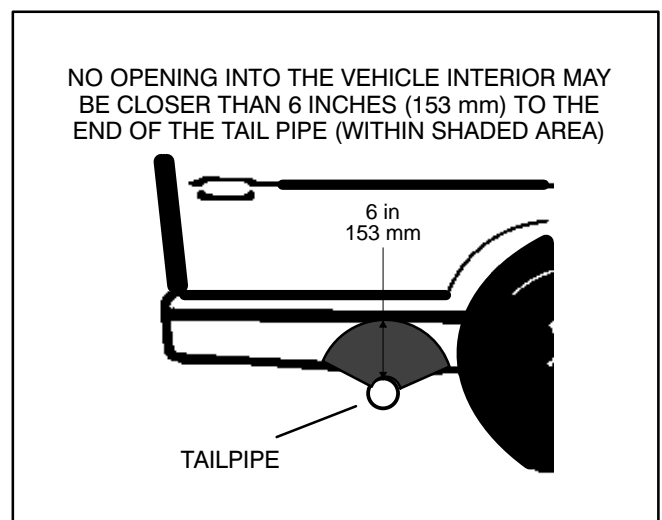
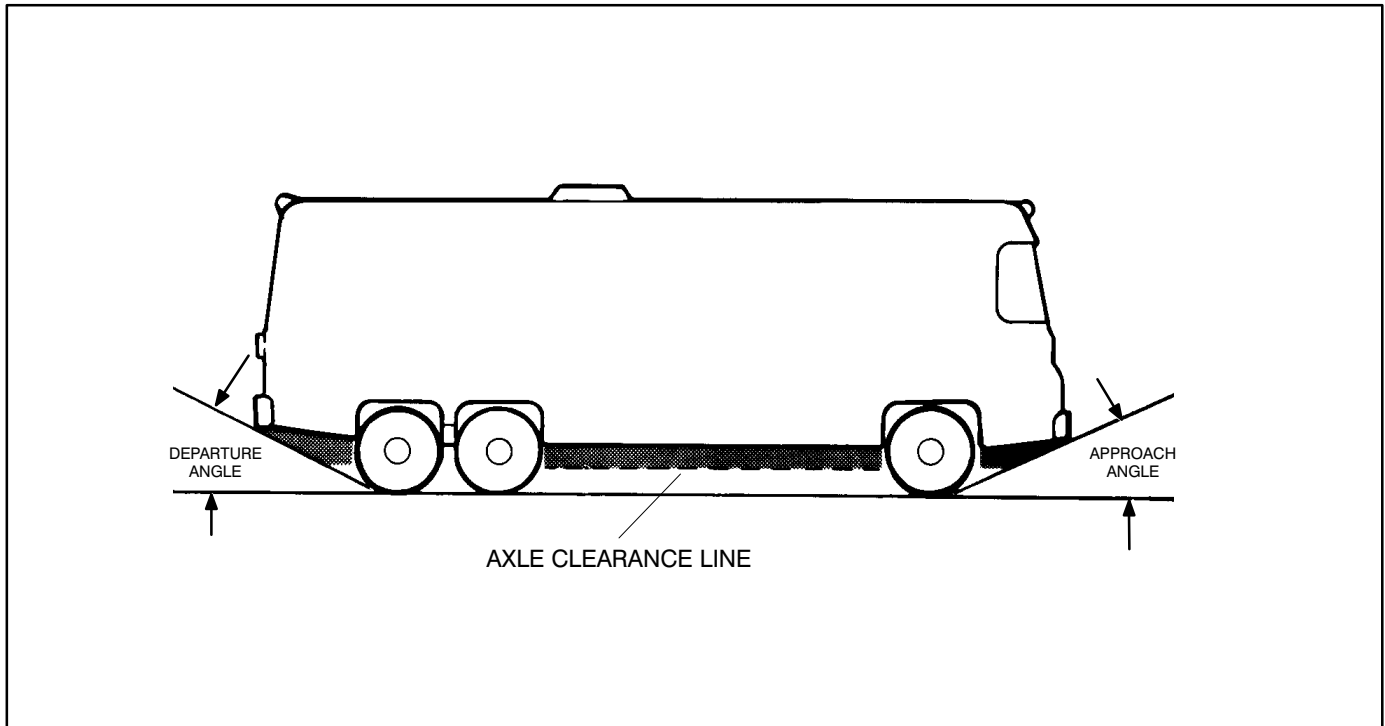

FIGURE 7. MINIMUM DISTANCES TO OPENINGS
FIGURE 8. APPROACH AND DEPARTURE ANGLES AND AXLE CLEARANCE LINE
⚠WARNING *EXHAUST GAS IS DEADLY! To keep exhaust gases from entering the vehicle do not terminate the exhaust tailpipe underneath the vehicle or closer than specified to openings into the vehicle (Figure 7) or route it such that it is likely to be damaged (Figure 8). Use approved materials and parts only.*
9. Do not terminate the tailpipe such that it is closer than 6 inches (153 mm) to any opening into the vehicle interior (door, window, vent). See Figure 7.
angles of the vehicle and above the axle clearance line (Figure 8).